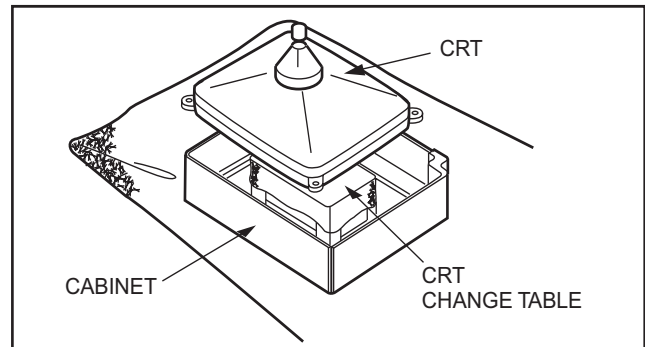

Fig.5
- (4) After 4 screws have been removed, put the cabinet slowly on cloth (At this time, be carefully so as not to damage the front surface of the cabinet) shown in Fig. 5.